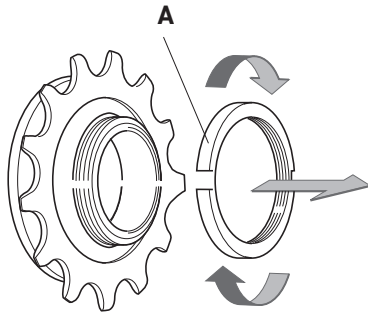

Fig. 10
- Remove the ring nut (A - Fig. 10) from the hub, turning it clockwise.